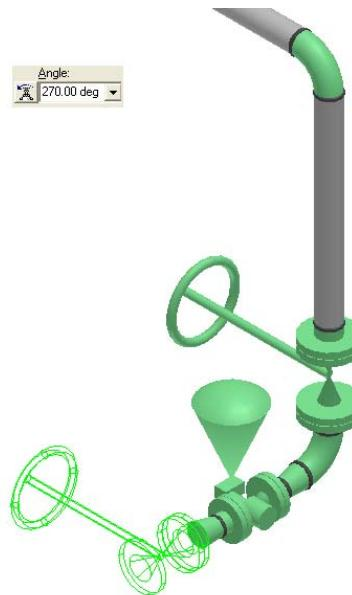

Figure 80: Outlined Gate Valve in the Graphic View
33. Select the **Gate Valve** option in the **Type** drop-down list and key in **270 deg** in the **Angle** drop-down list on the **Insert Component** ribbon to rotate the gate valve so that the operator is facing the north direction, as shown in Figure 80.